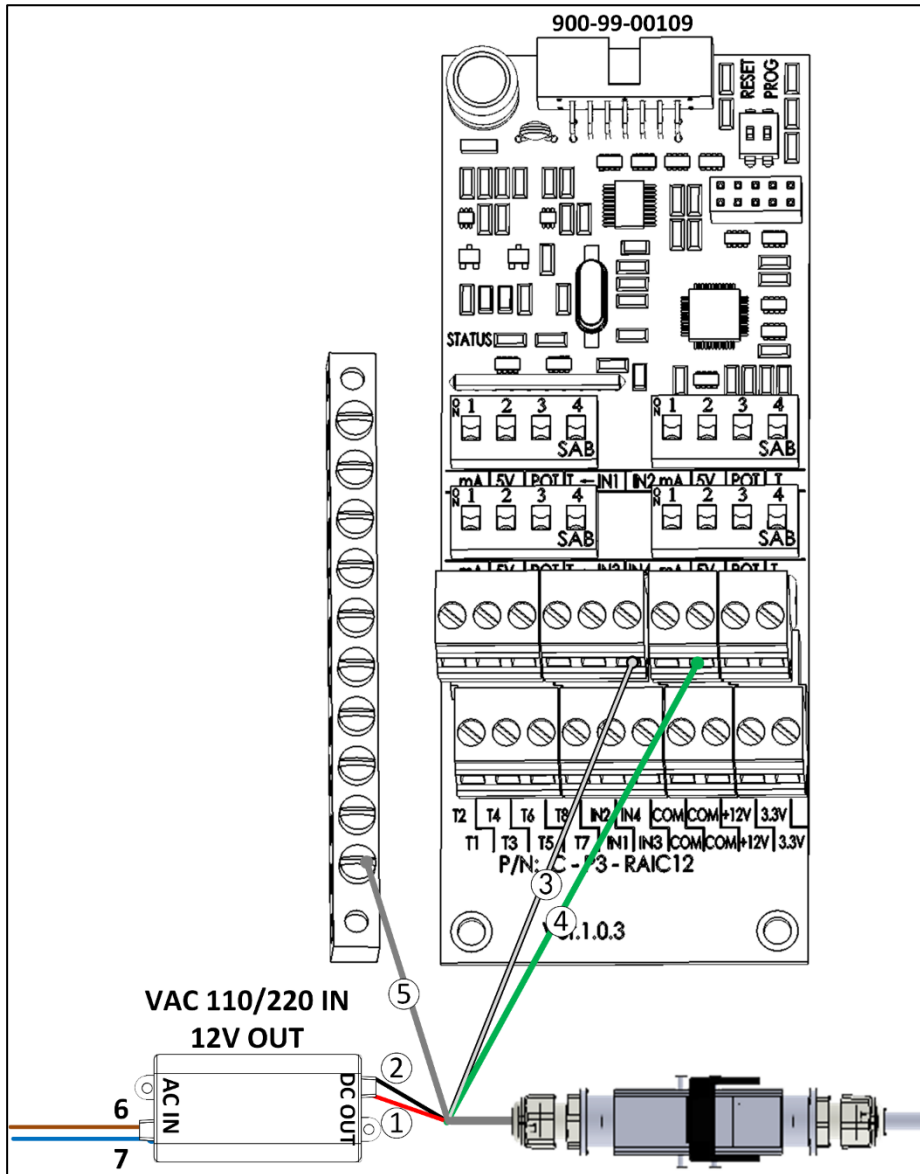

Figure 12: Platinum Pro Power Supply Wiring
1. Attach the other end of the sensor cable to the power supply and Platinum Pro Analog Input Card as indicated in Figure 12.